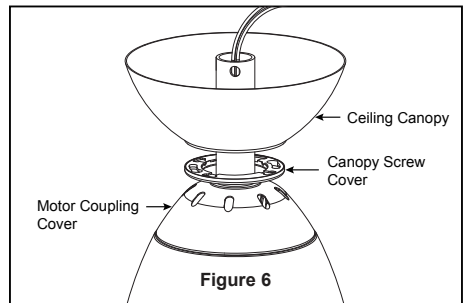

Figure 6
6. Route wires through motor coupling cover, canopy screw cover and ceiling canopy. (Figure 6)